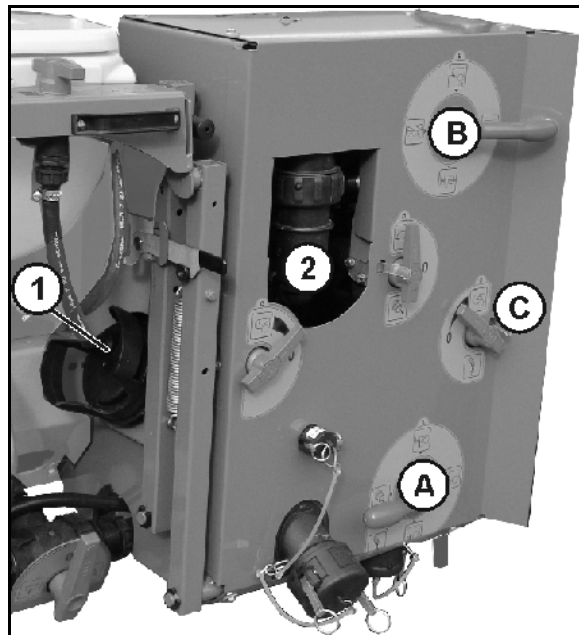
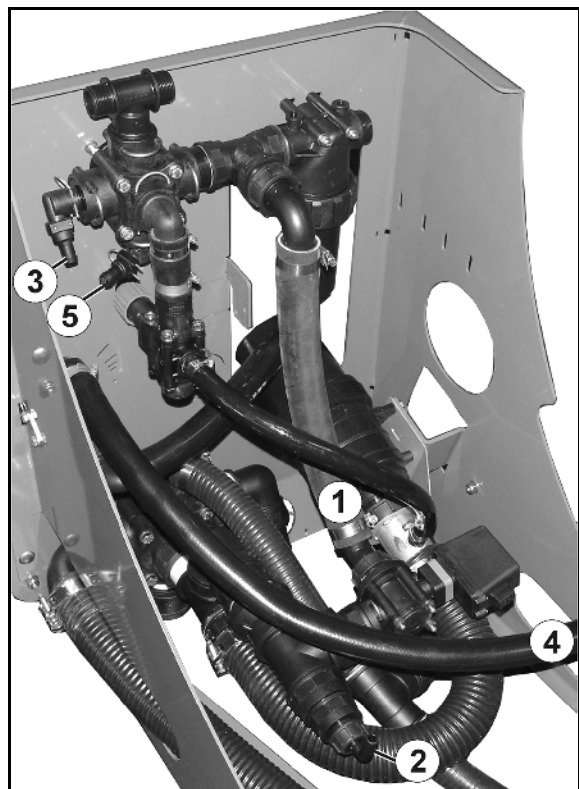

Fig. 139
Fig. 140
2. Remove and clean the suction filter (Fig. 139/1); see Seite 177.
- 5.1 Drain the pressure filter (Fig. 139/2) via tap **C**.
- 5.2 Unscrew the agitator hose (Fig. 140/4) (which comes out of tap **C**) from the spray liquid tank.
6. Unscrew the supply hose (Fig. 140/1) from the control valve. The supply hose connects the VARIO switch tap on the pressure side (Fig. 139/**B**) with the suction chest.
7. Unscrew the return hose (Fig. 140/2) for the part width section valve from the VARIO switch tap on the suction side (Fig. 139/**A**).
9. Remove the internal cleaning hose (Fig. 140/3) for the VARIO switch tap on the pressure side (Fig. 139/**B**).
11. Also remove the external cleaning hose even if there is no external cleaning (Fig. 140/5).
15. Move the VARIO switch tap on the suction side (Fig. 139/A) and the VARIO switch tap on the pressure side (Fig. 139/B) several times between all their switch positions.